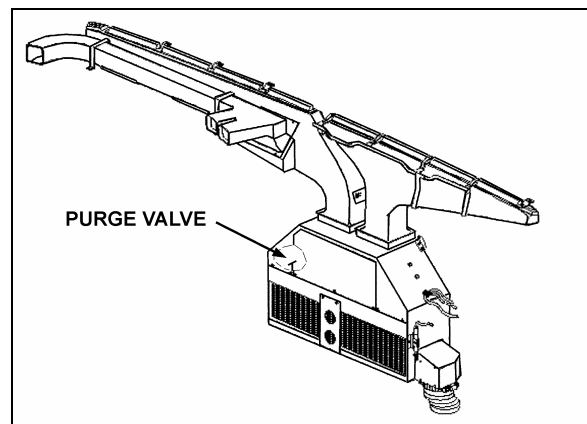
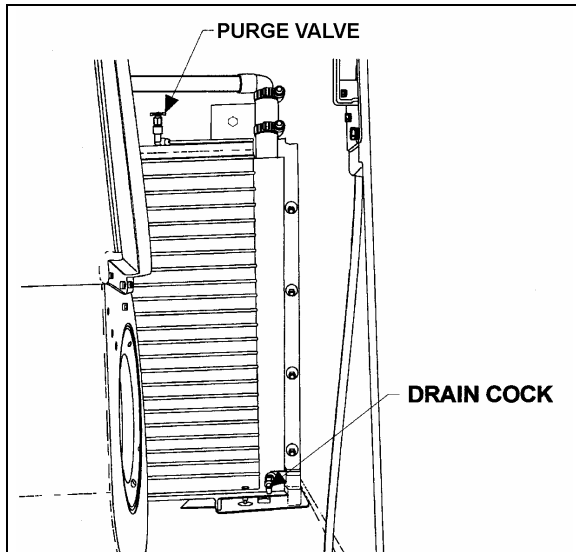

FIGURE 45: DRIVER'S UNIT AIR MIXING BOX 22171PV
FIGURE 46: PASSENGER'S UNIT HEATER CORE (H3 COACHES) 22229
4. From inside of vehicle, remove the grill and the access panels. Open the purge valve located inside the driver's unit (Figure 45) to ensure an efficient draining.
4. Open drain cock in bottom of heater core, then open purge valve located on top of heater core (Figure 46) in order to allow air to enter while draining.
Whenever the heating system has been drained and refilled, or the system has run low on coolant and coolant has been added, it is necessary to bleed air from heating system. Locate the purge valve illustrated in Figure 45 and Figure 46, and open them momentarily until no air escapes from the lines.